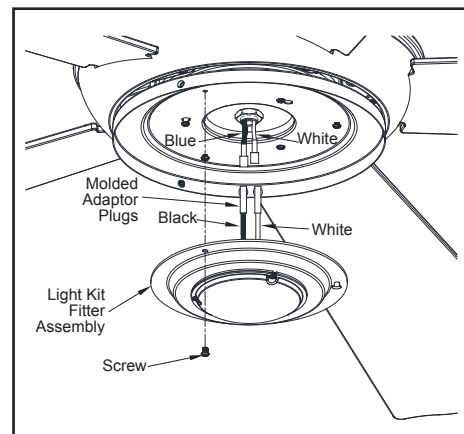

Figure 14
3. Remove one screw from the light kit pan and loosen, but do not remove the other two screws. Connect the wires from the light kit fitter assembly to the wires from the fan motor assembly by connecting the molded adaptor plugs together. Carefully tuck all wires and splices into the switch cup. (Figure 14)
4. Push the light kit fitter assembly up so that the two loosened screw heads fit into the keyhole slots. Turn the light kit fitter assembly clockwise, tighten the screws. Re-install the screw that was removed in step 3 and tighten firmly. (Figure 14)